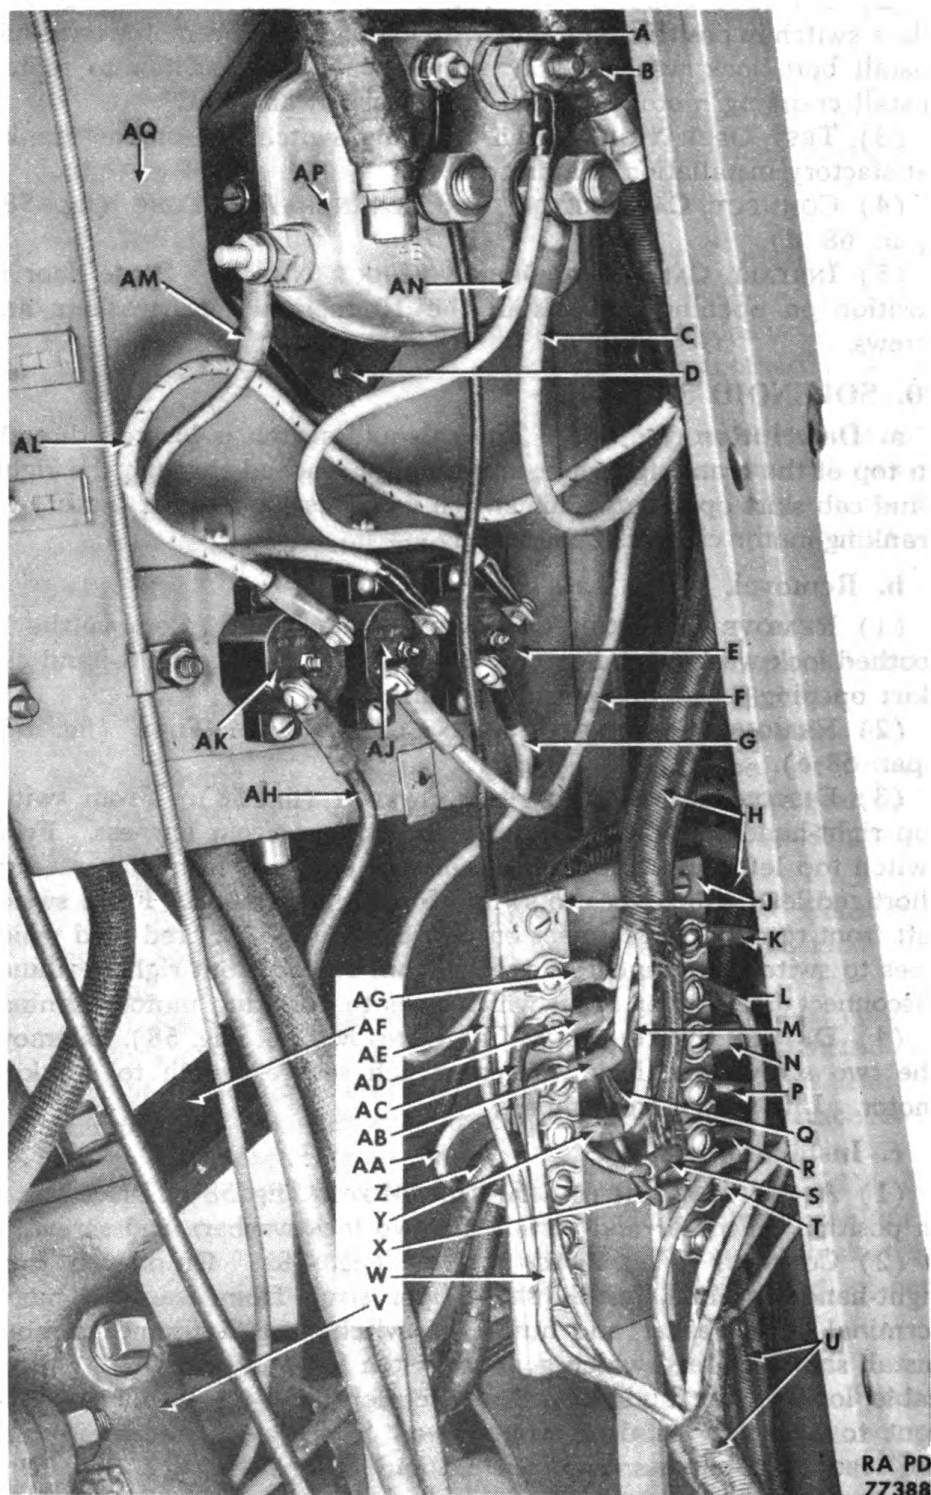

Figure 59 — Electrical Units on Reverse Side of Left-hand Dash
**Legend for Figure 59 — Electrical Units
(2) **DISCONNECT WIRES FROM SWITCH** (fig. 59). Disconnect all five wires from switch. Tag wires to facilitate installation.
(3) **DETACH SWITCH FROM DASH** (fig. 59). From driver's compartment, remove the two cap screws which hold switch to dash. Lift switch from dash through cowl opening.
(1) **ATTACH SWITCH TO DASH** (fig. 59). Insert switch through cowl opening into position on dash. Hold switch in position while another man inside driver's compartment installs both cap screws which secure switch to dash.
(2) **CONNECT WIRING TO SWITCH** (fig. 59). On switch terminal marked "B-", install red wire from left-hand circuit breaker, lock washer, and nut. On terminal marked "SW", install black wire from harness, lock washer, and nut. On terminal on right side of switch (toward engine), install green wire from circuit breaker, lock washer, and nut. On terminal marked "A-", install negative cable from rear battery, red wire from harness, lock washer, and nut. On terminal marked "B+", install positive cable from front battery.